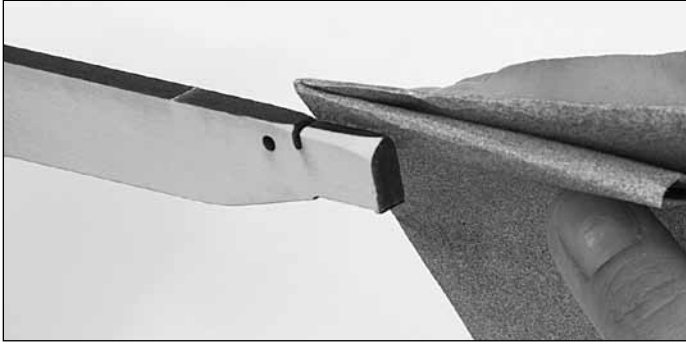

Figure 1
2. Sand or file down the edges on top of the narrow end of Part A (Figure 1).